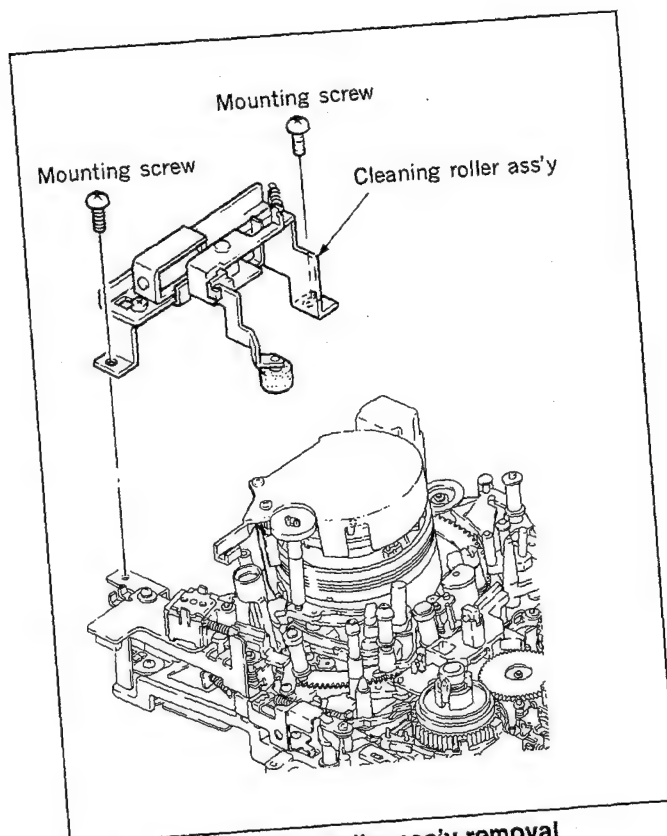

Fig. 4-10-1 Cleaning roller ass'y removal
1. Cleaning roller ass'y removal (Fig. 4-10-1)